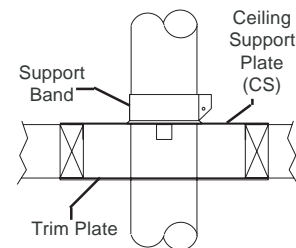

Fig 8
If the location where the vent passes through the ceiling is visible, a Trim Plate (TP) may be desired in order to provide a finished look to the penetration. To install: Determine the location where the vent will pass through the ceiling. Prepare an opening in the ceiling (See Table 1 for proper framing dimensions). From the top side of the joist, set the CS plate into the framed opening so that the 4 tabs on the plate extend down into the opening. These tabs help verify that the minimum clearance to framing is established. Nail the CS plate to the framing members (See Fig 8). If installing a TP, center the TP on the ceiling (bottom side) of the opening and secure to the framing members using the fasteners provided. See Support Band section to complete installation.
The Support Band is used to secure the vent pipe to the plate on the CS. After the CS plate is installed, route the vent pipe up through the hole in the CS plate. Position the Support Band so that the larger, flanged edge is to the bottom and slide the support band down over the vent pipe until it is in contact with the CS plate. Using a screwdriver, tighten the bolt on the Support Band to draw the ends together and clamp to the vent pipe (See Figs 8 & 9).